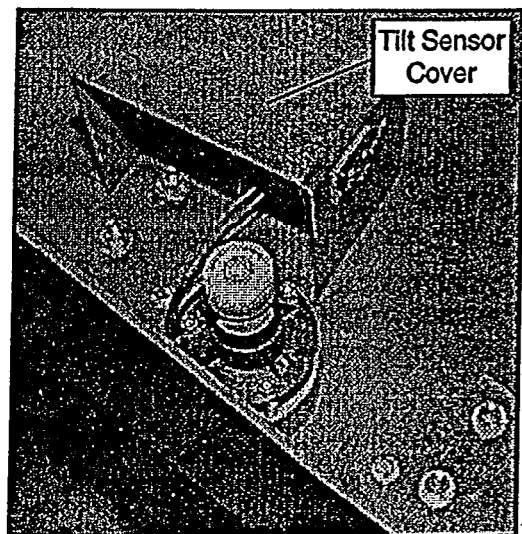

Figure 3. Tilt Sensor
10. Remove tilt sensor cover retaining screws. (figure 3)
11. Push tilt sensor (indicate) off level, tilt alarm should sound. (figure 3)
12. Reinstall tilt sensor cover and retaining screws. (figure 3)
16. If machine does not perform as described, please contact the UpRight Product Support department by telephone at (800) 926-5438.